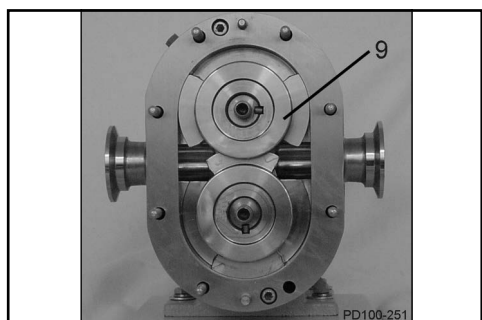

Figure 36 - Remove Overlapping Rotor First
1. Using only your hands, remove the rotor with the hub overlapping the other rotor wing (Figure 36, item 9).